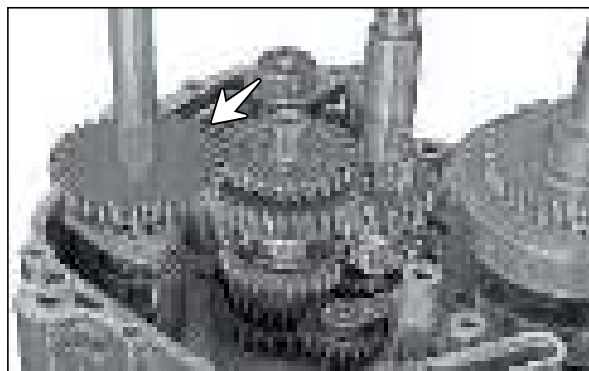

Fig. 3.148
- Take out gear kick starter drive from the shaft kick starter. (Fig. 3.148)